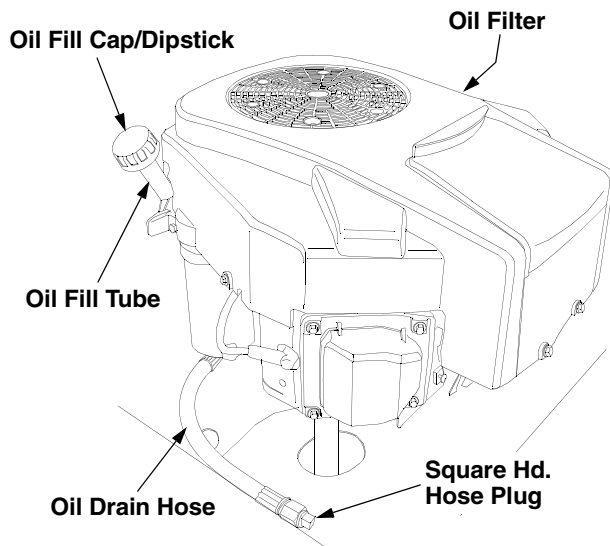

Figure 21
- Locate the oil drain hose on the left side of the engine. Refer to Figure 21.
- While holding the free end of the oil drain hose over the oil collection container, unscrew the square head hose plug from the end of the hose. See Figure 21. Drain the engine oil into the collection container.